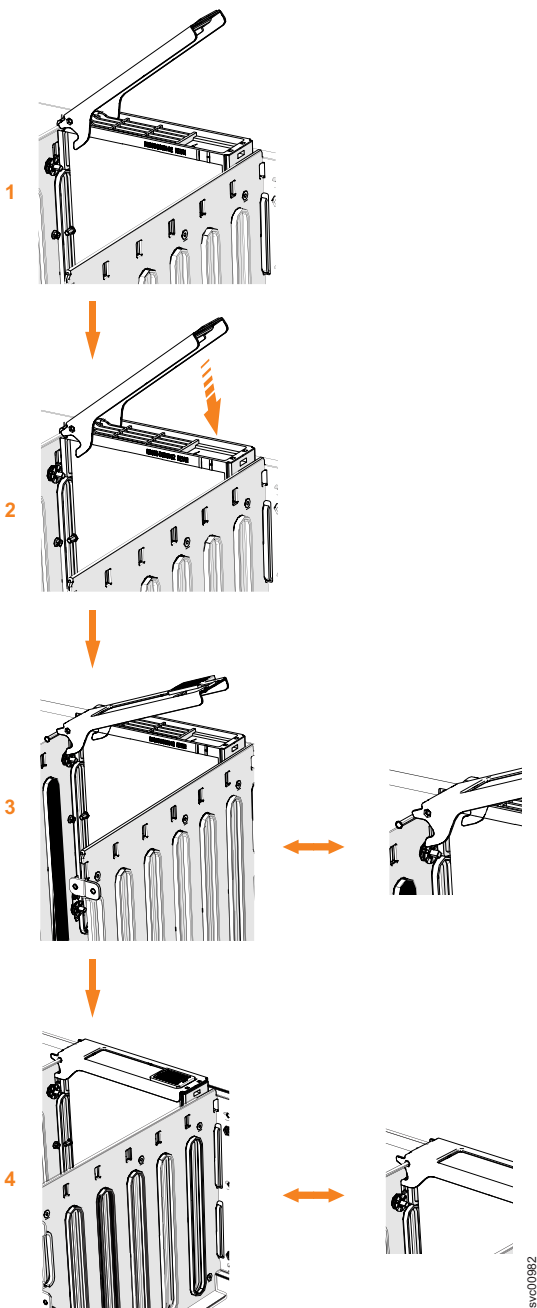

Figure 65. Replace the drive
6. Ensure that the drive handle (**1** in Figure 65 on page 68) of the drive assembly is in the open (unlocked) position.
8. Gently push the drive down until it stops and the bottom of the latch is aligned with the top of the partition. Ensure that the handle is not open more than 45 degrees from the drive carrier. (**2** in Figure 65 on page 68).
9. Rotate the handle down to lock the drive assembly into the chassis (**3** in Figure 65).
11. Ensure that the top toe of the latch is also fully engaged (**4** in Figure 65 on page 68).